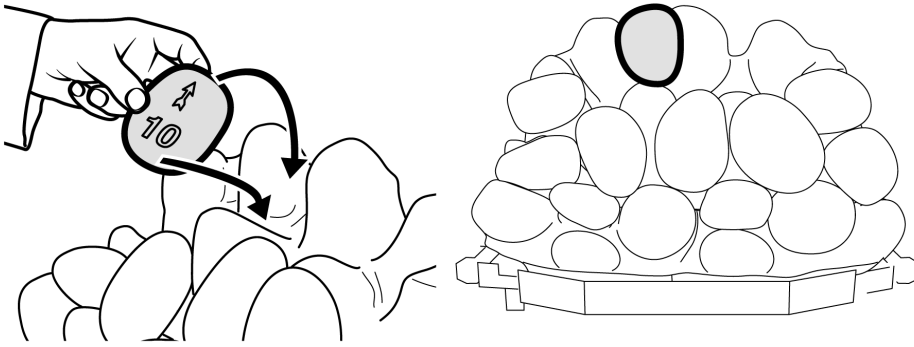

Figure 29. Third row "Pebble 10"
**20.** Hold pebble '10' upright with the arrow pointing to the top. Locate pebble '10' as shown in figure 29.